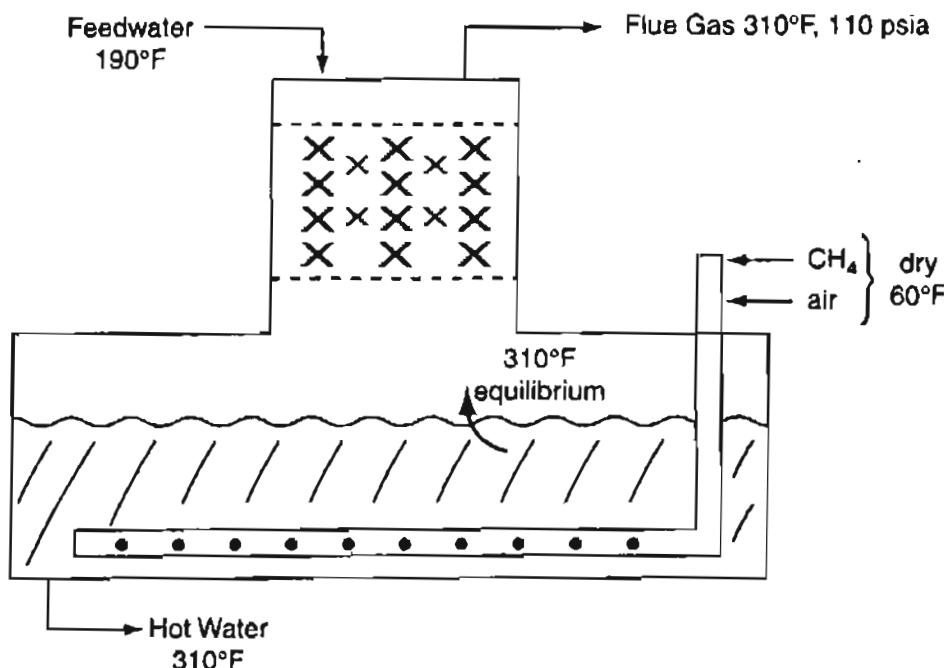

Figure P26.19
- **26.19** An old idea now coming into vogue for efficient heat transfer is to operate a submerged combustion burner (see Figure P26.19) to give hot water. The fuel, natural gas, may be assumed to be CH₄ and is burned using 5% excess air. The immersion of the burner is such that the flue gases leave the water in equilibrium with it. The feedwater enters the dehumidifier section at 190°F and the hot water leaves from the bottom of the combustion chamber at 310°F. The CH₄ and air enter dry at 60°F. Calculate the heat transfer coefficient for the combustion chamber.